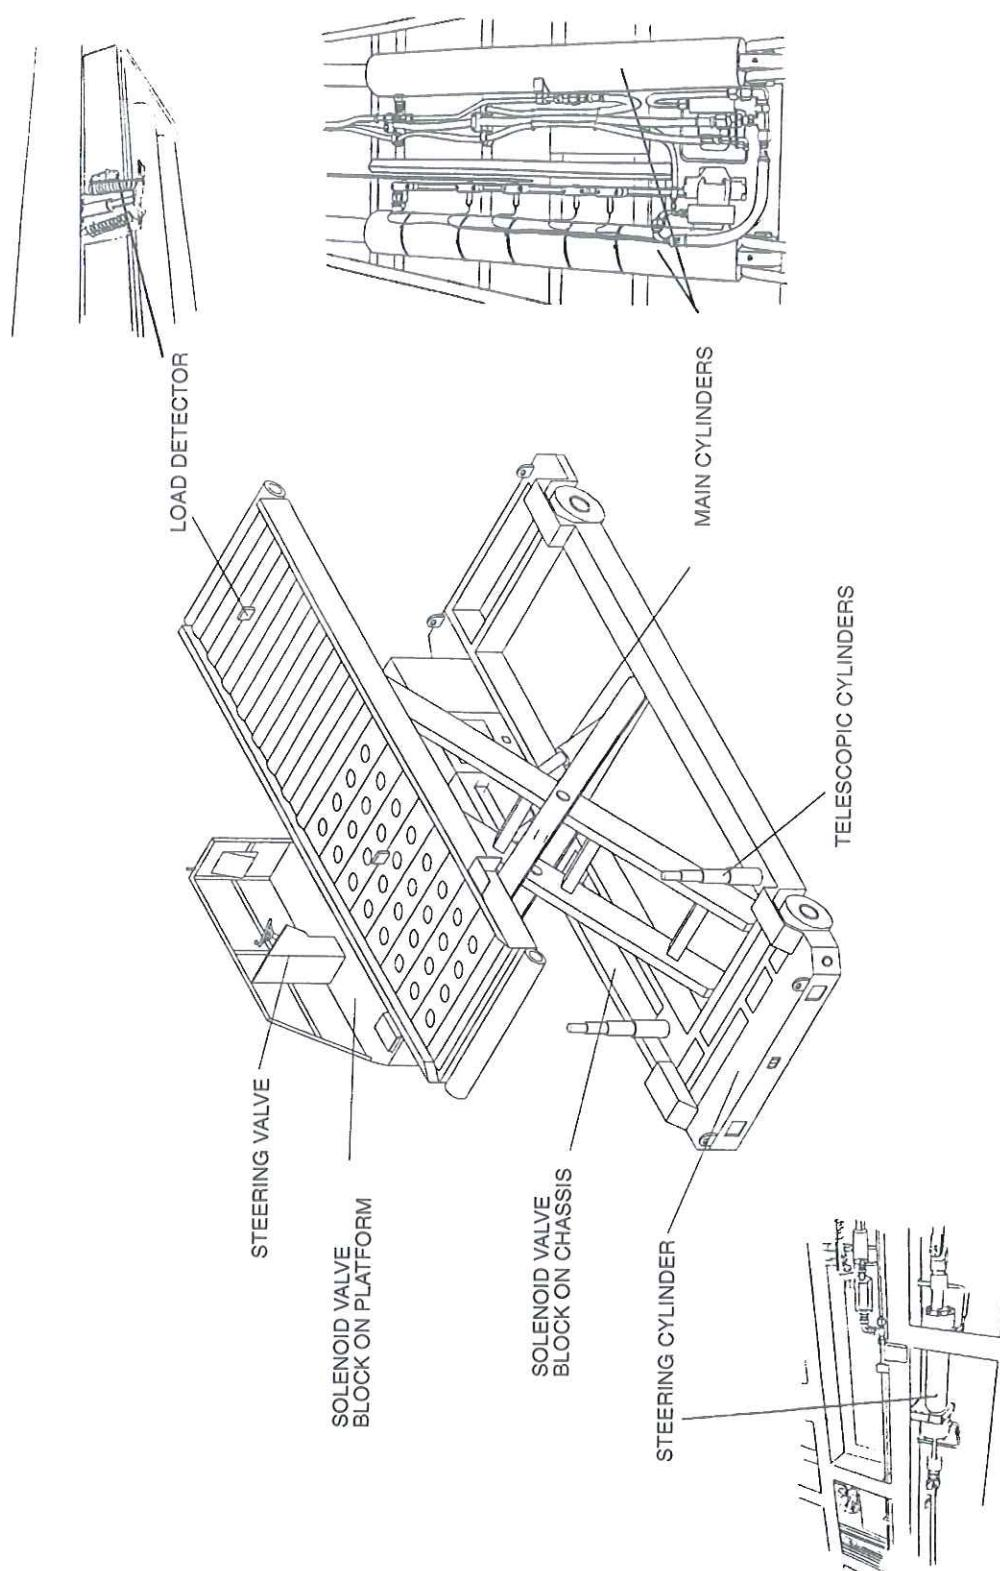

Figure 5
I. STEERING CIRCUIT (SEE FIGURE 5)
(5) Load detectors (see Figure 5)